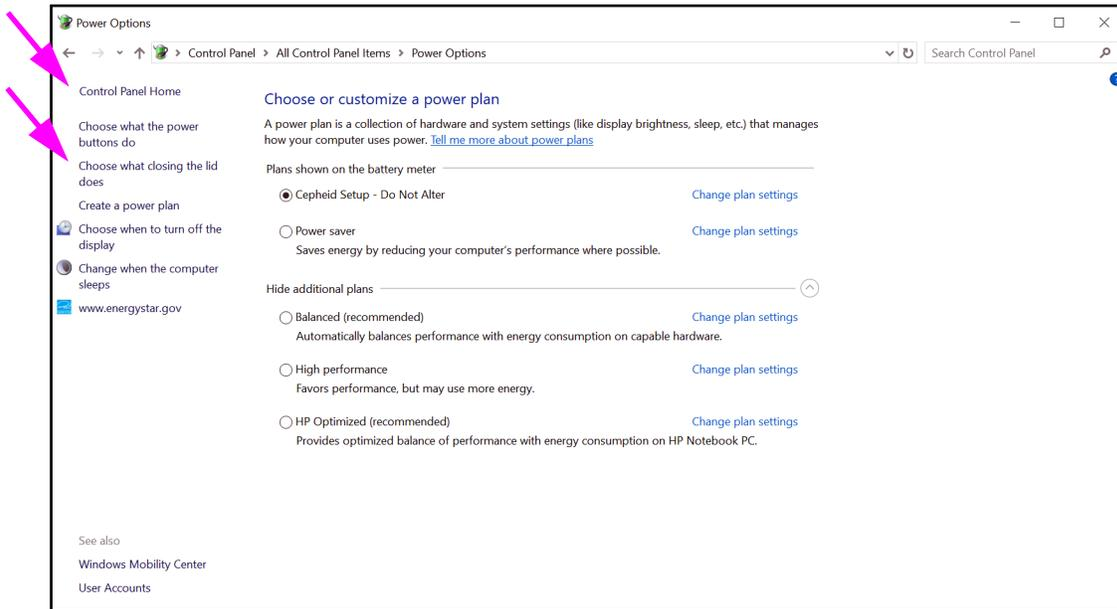

Figure 2-29. Power Options Window
9. Click **Cancel** to close the Edit Plan Settings window. The Power Options window appears (see Figure 2-29).